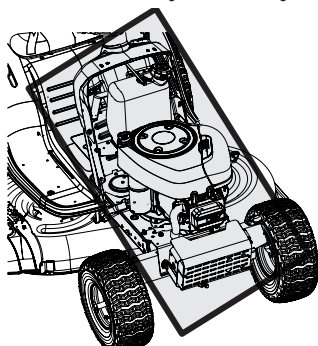

Figure 22
- Clean under the hood, including exhaust manifold, around fuses, all wiring and harnesses, muffler pipe, muffler shield, engine intake screens and cooling fins, etc. See Figure 22.